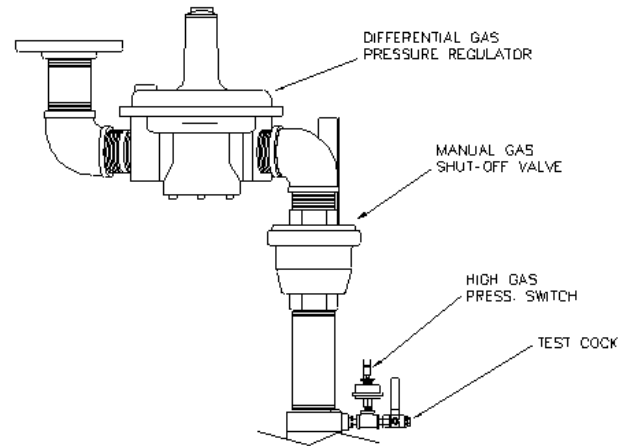

Figure 6.3
3. Close the manual gas valve located between the safety shut-off valve and the differential regulator (see Fig. 6.3).